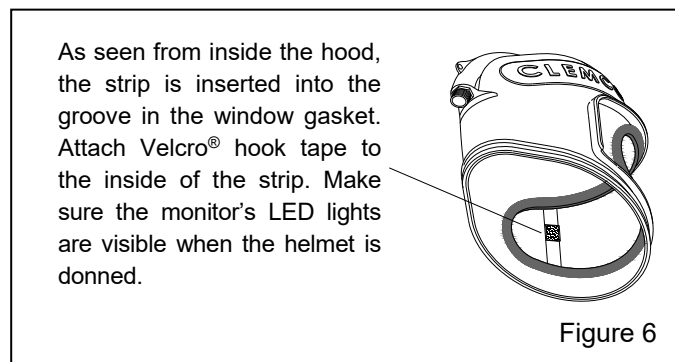

Figure 6
**2.1.3.2** Place the transparent mounting strip on the inside of the inner lens, and into the same window gasket groove as the inner lens, as shown in Figure 6. Position it so it is within peripheral vision toward the side of the window opening.